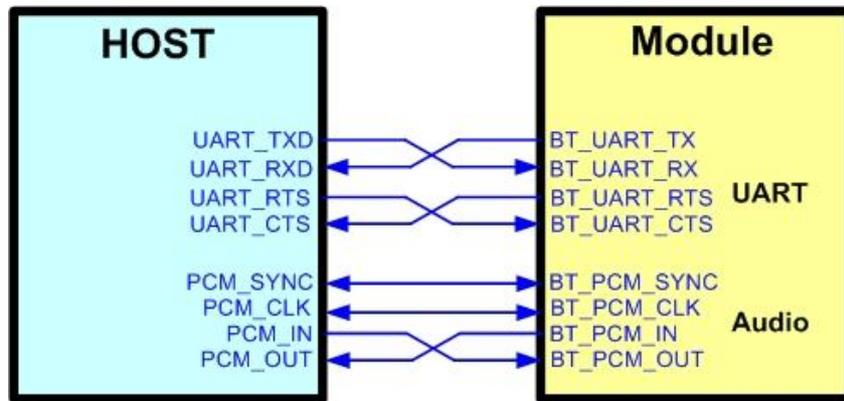

Figure5. Bluetooth verification connection interface to Host UART
- ❖ Refer to Figure5 UART pin definition connects the J16 interface of AP6745 evaluation board to Host UART control interface.